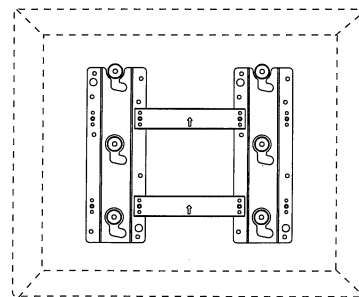

Fig. 5
5. Put the back of the display unit close to the wall mounting holder, insert the four wall mounting connectors into the four calabash-shaped holes on the wall mounting holder. (Fig.5)